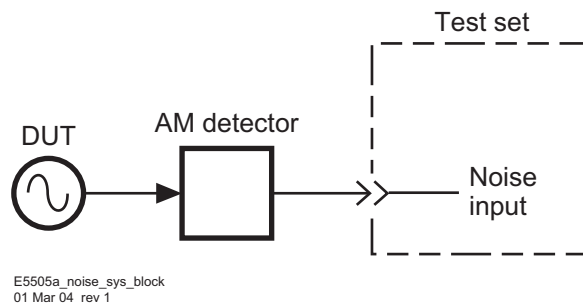

Figure 230 Double-sided spur AM noise setup (method 2, example 2)
- 1 Connect circuit as shown in Figure 230, and tighten all connections. If the N5500A Option 001 or N5507A is available, use one of the connection diagrams described in “AM noise measurement block diagrams” on page 285.